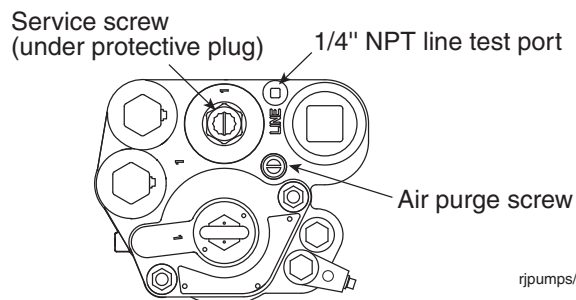

Figure 23. Locating Pump Line Test Port
- Pressure may be observed using a gauge attached at the impact valve or to the pump's line test port (see Figure 23).
2. Remove and save the protective plug over the service screw and turn the screw clockwise (see Figure 23). As the screw approaches its bottom position, you will hear the system depressurizing. Continue turning the screw until it can go no further. When the screw is all the way down, back off the screw 4 turns to lift the check valve and let the fuel drain out of the manifold's hydraulic cavities. Continue to turn the screw all the way counterclockwise. When the screw is almost up, the check valve will drop down into position.
3. Remove the line test port plug (see Figure 23) and attach test gauge.
4. Open the air purge screw 2 - 3 turns counterclockwise (see Figure 23).
2. Remove and retain the protective plug over the service screw and turn the screw clockwise (see Figure 23). As the screw approaches its bottom position, you will hear the system depressurizing. Continue turning the screw until it can go no further.